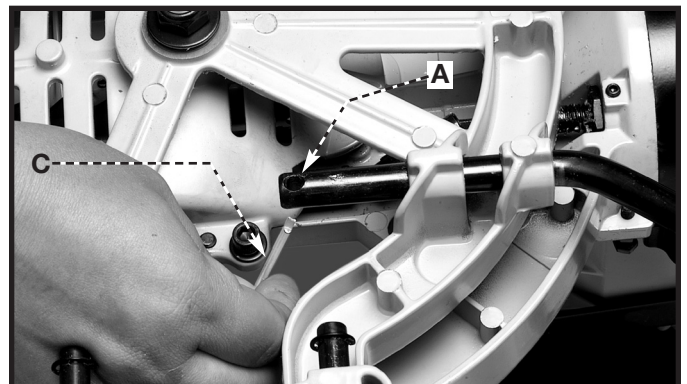

Fig. 4
2. Insert the cotter pin (C) Fig. 4 through the bottom of the hole in the rear support/stabilizer and carrying handle (A) and bend the two pins (B) on the back. (Fig. 5). Repeat this process for the remaining hole in the rear support/carrying handle.